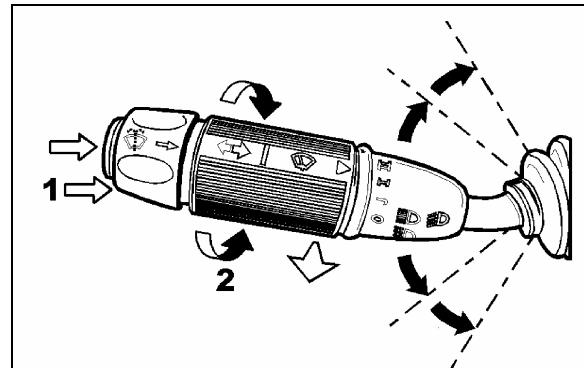

FIGURE 34: MULTIFUNCTION LEVER
Turn the multifunction lever forward to activate windshield wipers (item 2, fig. 34). The first position operates the wipers at low speed and the second position operates the wipers at high speed. Turning the lever backwards will operate the wipers in the intermittent mode.
The windshield washer pumps are electrically operated and are controlled by a washer control ring on the multifunction lever (item 1, fig. 34).
The windshield wiper motor is located at lower front of the vehicle, behind the defroster panel. Refer to figure 34 for motor location.